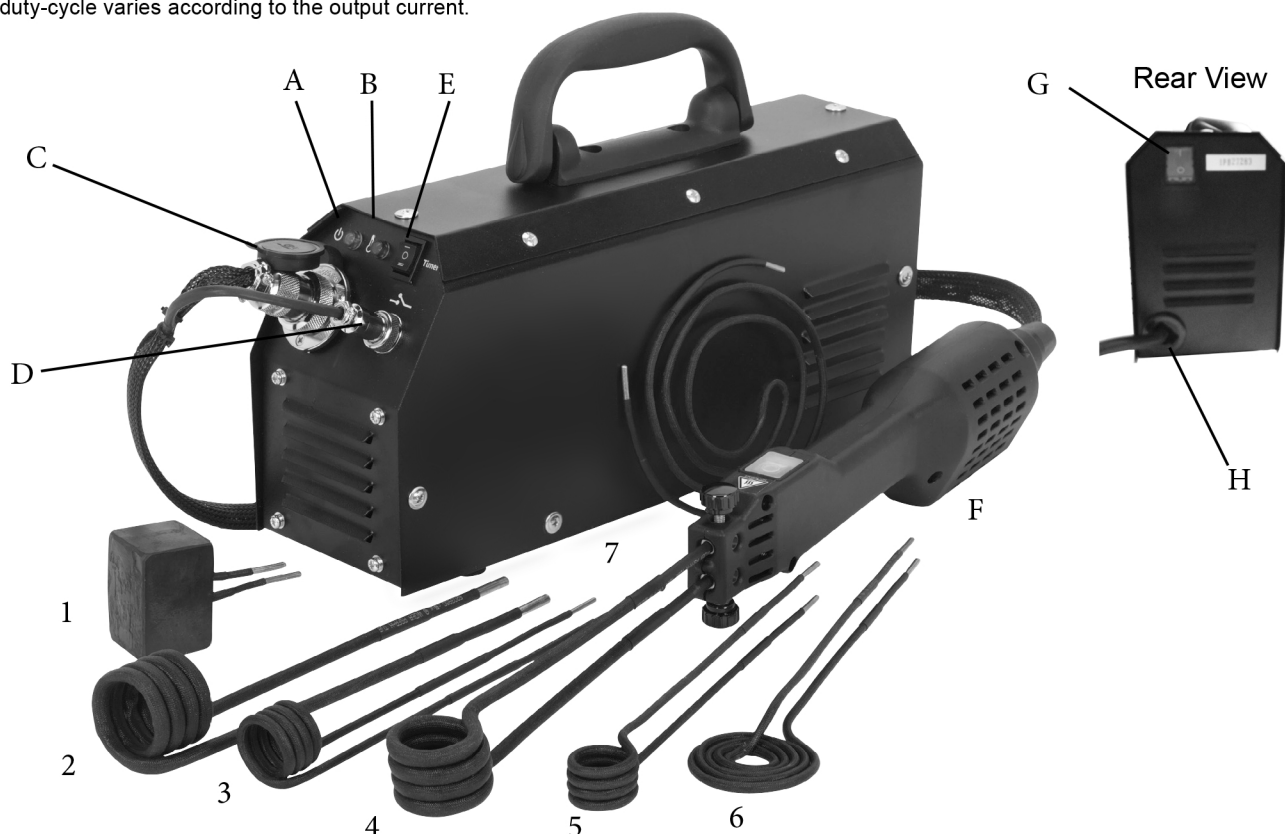

fig.1
- 4.1. Connect the torch to the two output connections on the control panel fig.1 C/D.